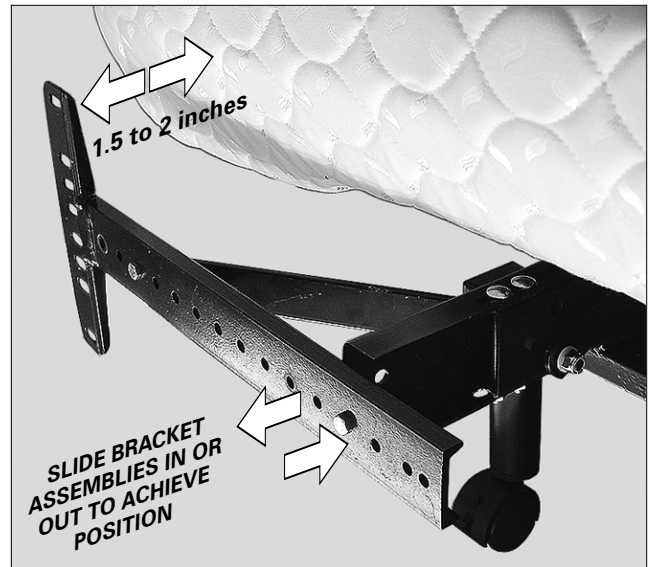

FIGURE 11: Headboard bracket position from the edge of the foundation base frame.
- d. Slide headboard bracket assemblies (in or out) to achieve a distance of 1.5 inches (38.1mm) to 2 inches (50.8mm) between the edge of the foundation base and headboard bracket flange assemblies (**FIGURE 11**).